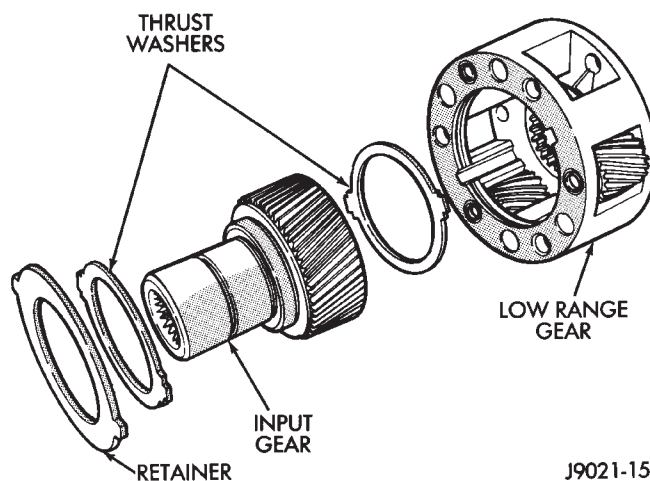

Fig. 35 Input And Low Range Gear Assembly
(12) Assemble low range gear, input gear thrust washers, input gear and input gear retainer (Fig. 35).